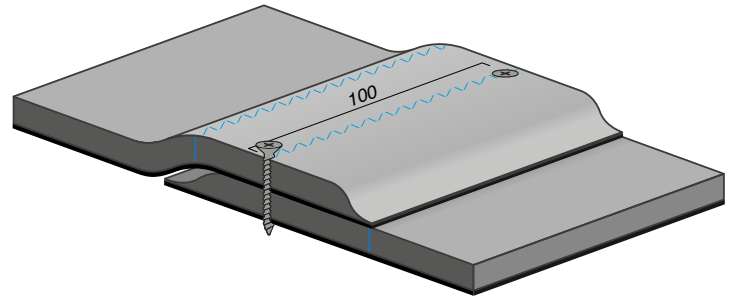

Figure 5. Screwed overlap joint
3. Installation of Screws: Once hydrated CCX™ has a working time of approximately 30 minutes in ambient temperatures of 20°C. Screws must be applied before setting begins so the concrete within CCX™ will set around the thread of the screws. The screws should be applied at a maximum of 100mm spacing along the fixing marker line, see Figure 5.